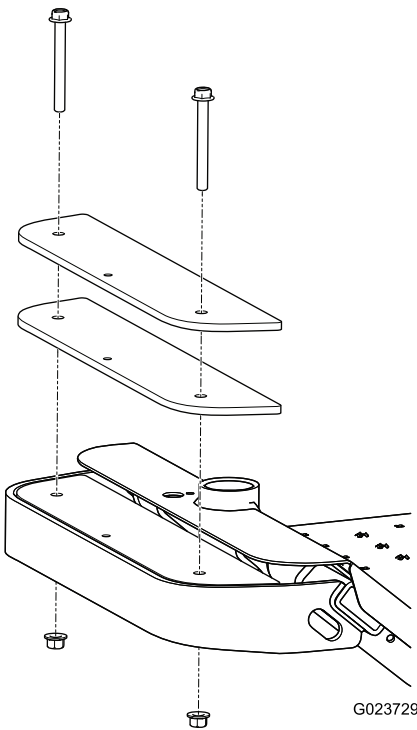

Figure 11
1. Remove the 2 bolts and 2 nuts securing the existing weights on the front of the machine (Figure 11).